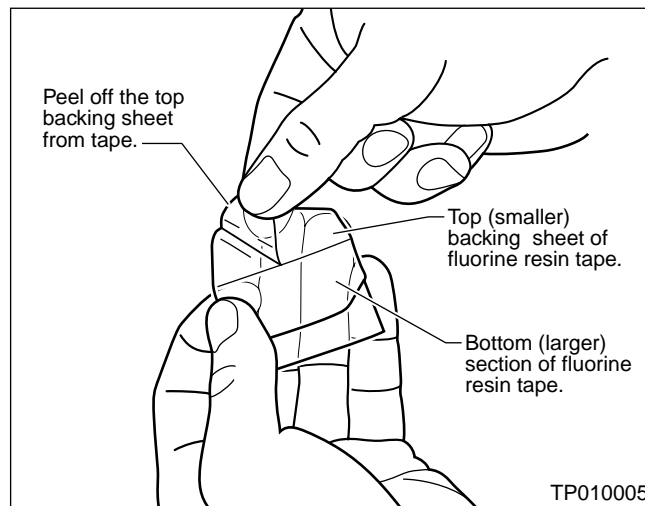

Figure 5
5. Peel off the top (smaller) backing sheet from one of the two fluorine resin tape sections provided in the kit (see Figure 5).